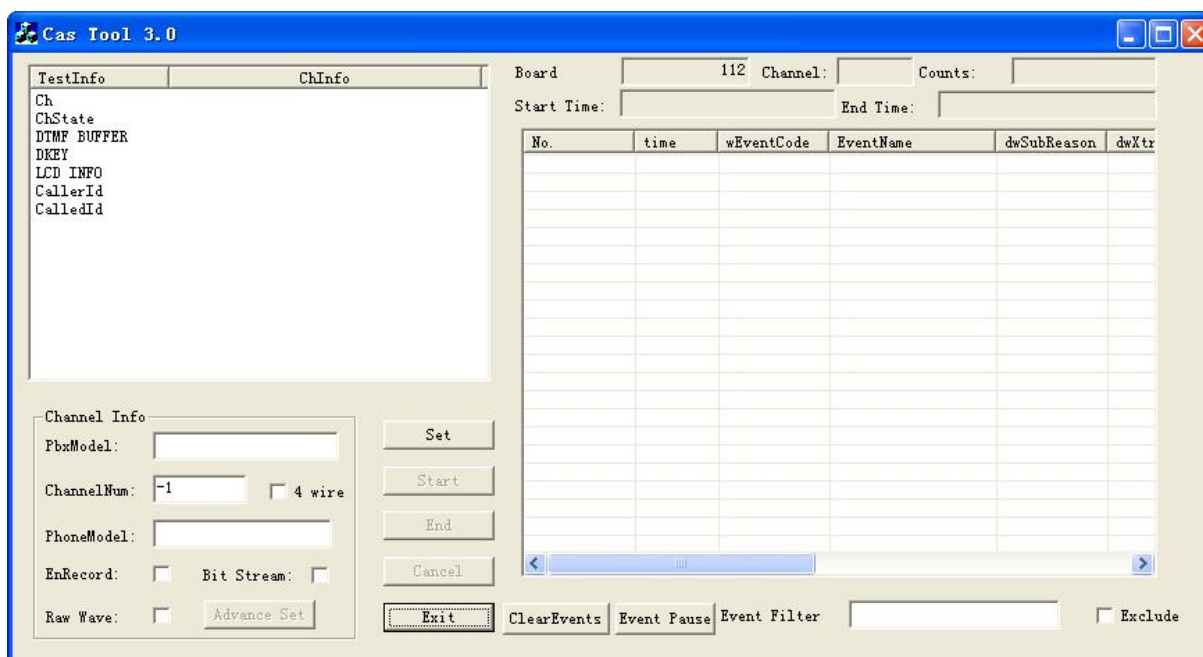

Figure 2-1
Step 1: Start CasTool.exe and the main interface shows as Figure 2-1.
As seen in Figure 2-1, there are two columns 'TestInfo' and 'ChInfo' on the top of the left list window. The 'TestInfo' will cover such information as Ch, ChState, DTMF BUFFER, DKEY, LCD INFO, CallerId and CalledId, while the 'ChInfo' will show the monitored situation in real time. The right list window will display the D-channel event code and other parameters in turn.